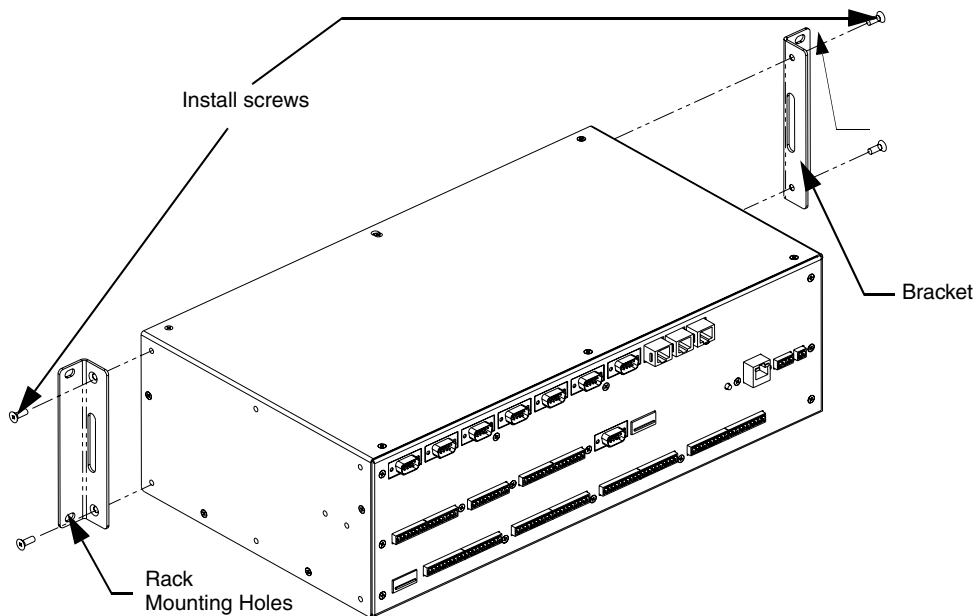

FIG. 22 Mounting Integrated Controller into an equipment rack
2. Position and install the mounting brackets, as shown in FIG. 22, using the screws supplied with the unit. The mounting brackets can be rotated to accommodate your mounting needs.
7. Slide the unit into the rack until the attachment holes, along both sides, align to their corresponding locations on the mounting brackets, as shown in FIG. 22.